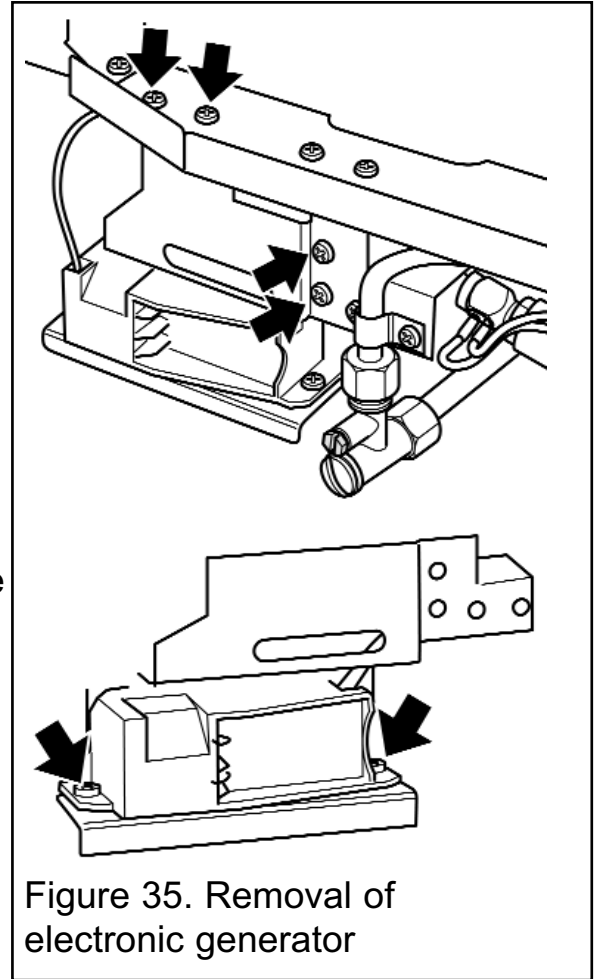

Figure 35. Removal of electronic generator
5. Unscrew the four support bracket screws (See figure 35). The generator and its support bracket can now be moved forward. Be careful not to apply tension to the microswitch leads.
6. Remove the two fixing screws that attach the generator unit to the support bracket. The igniter generator can now be removed (See figure 35).